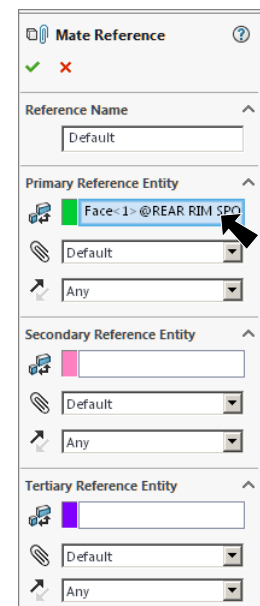

Fig. 21
Step 3. In the Mate Reference Property Manager click OK ✓, **Fig. 21**.